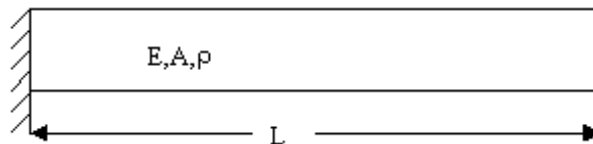

Figure 4:
7. Find the natural frequencies for a cantilever bar vibrating freely in the axial direction by using one and two elements respectively. The exact solution is  $\omega = (n\pi/2L) \left( \sqrt{E/\rho} \right)$  where  $n = 1, 3, 5, \dots$  is the mode number. Find the percentage of error in both the cases. Shown in figure 4 [16]